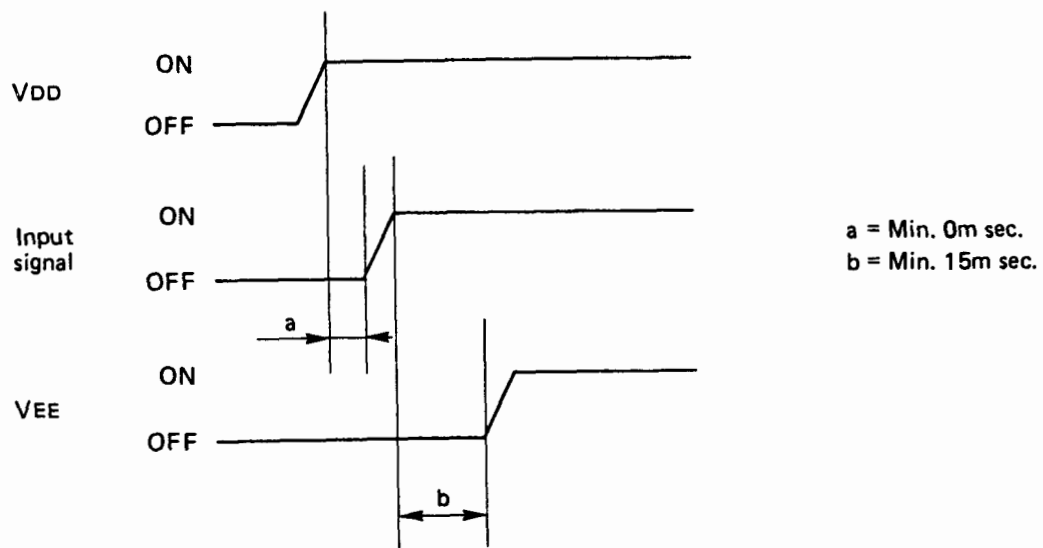

Figure A-12. Operational Precautions
- (1). The ICs would break down if the drive voltage exceeds the limit. Make sure of electrical specifications, particularly the supply voltage.
- (2). The response of the display is slow when the ambient temperature is below the lower limit, and the display surface appears dark everywhere when the ambient temperature is above the upper limit. In any case, it does not mean failure. It operates properly in the normal operating temperature range.
- (3). The contrast of the liquid crystal display varies with the viewing angle, ambient temperature, and drive voltage. Adjust the drive voltage for the best contrast by installing external variable switch.
- (4). If you move the module from a cold storage into the room as during test, moisture would condense on the module and it might fail.
- (5). In order to prevent IC latch-up and DC voltage on the LCD Panel, please power on by the following Fig. A-12.